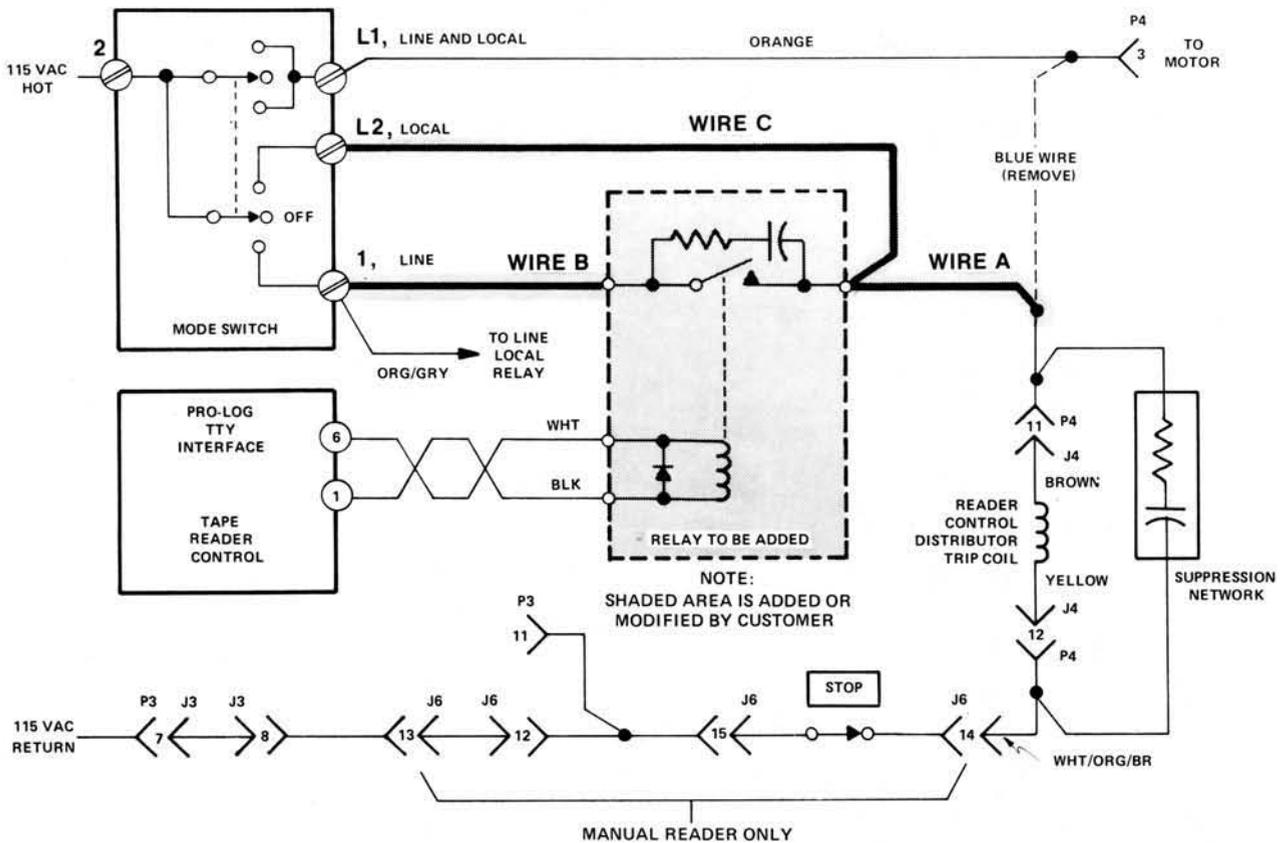

Figure 10-11 TTY Modification (Manual Reader)
The manual reader circuit can be controlled remotely by adding a relay to control the reader trip coil in the LINE mode. Modifying the reader circuit as shown in Figure 10-11 allows normal operation in the LOCAL mode and remote control in the LINE mode.
- If the wire colors do not agree, do not proceed with this modification unless the connections can be verified to agree with those of Figure 10-11.